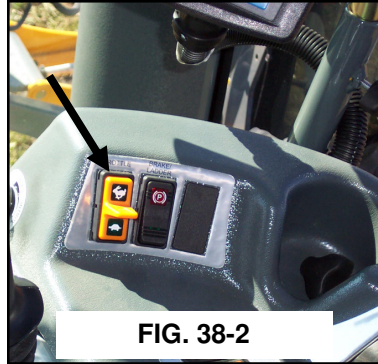

FIG. 38-2
2. Increase the engine one bump to gain RPM of 1800 with the throttle switch (fig. 38-2). More RPM will be gained as you move the hydrostatic lever forward.